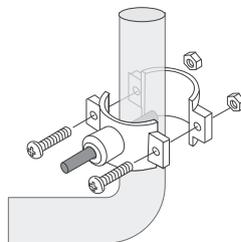

Figure 9
3. Slip the front plate over one end of the tubing (without a mark) and insert the tubing into the drilled hole for about 0.6" (Figure 9).